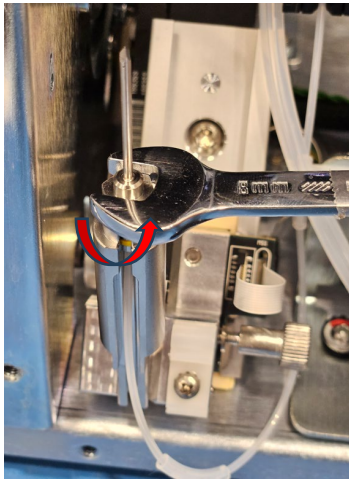
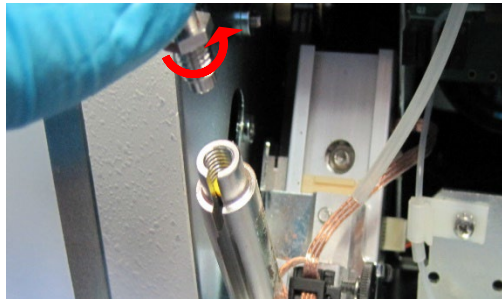

**Figure 5**
**Figure 6**
4. **WARNING:** Ensure **protective rubber gloves** are worn while performing the steps listed below. Remove Thumb Screw from Probe Tube shown in Figure 5. Now, you can remove the Probe Tube Assembly as seen in Figure 6 and the spring from Needle Piston Assembly. **CAUTION: This will expose the needle and could cause potential injury.**